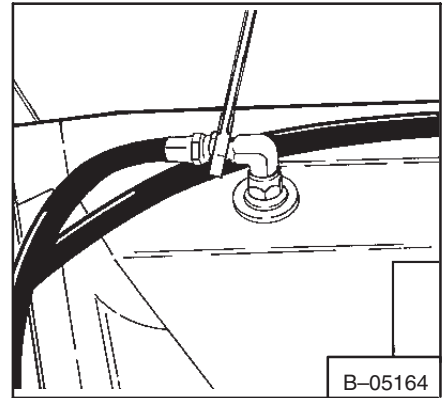

Fig. 1-33 Hose Fitting
- (b) Remove the hose at the oil cooler fitting (Fig. 1-33).